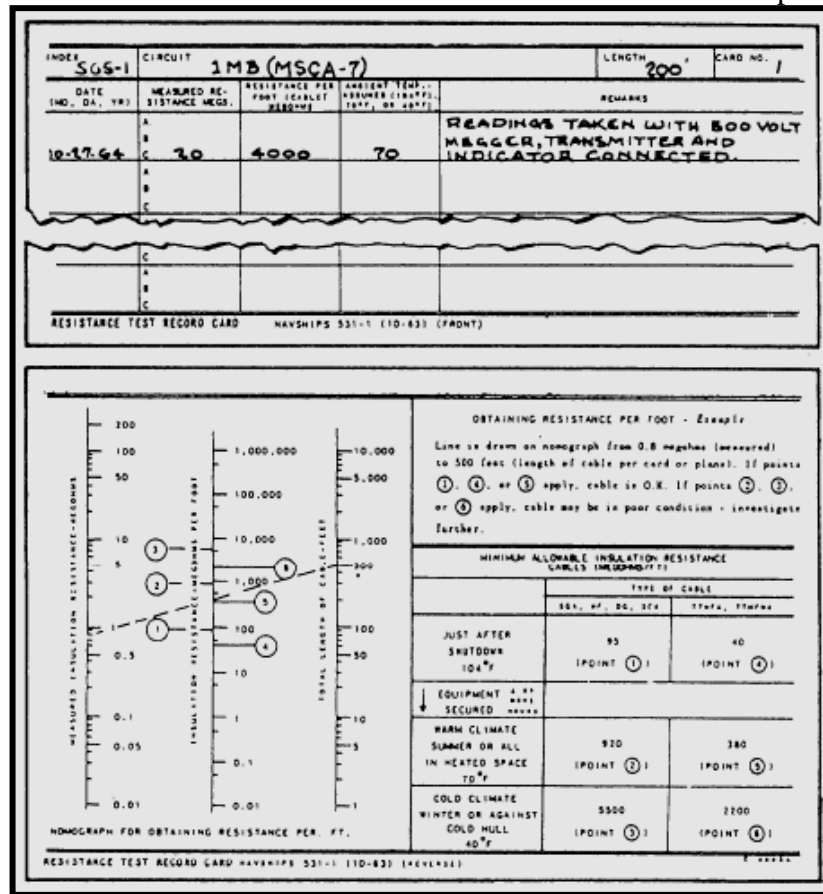

Figure 2-47.-Resistance Test Record Card, NAVSEA 531-1.
**TYPE OF CABLE.**— Insulation resistance will vary considerably with the nature of the insulating materials employed and the construction of the cable. Therefore, it is possible to determine the condition of a cable by its insulation resistance measurements only when they are considered in relation to the typical characteristics of the particular type of cable. A Resistance Test Record Card, NAVSEA 531-1 (fig. 2-47), should be used to determine if the measured insulation resistance values are above the minimum acceptable values.